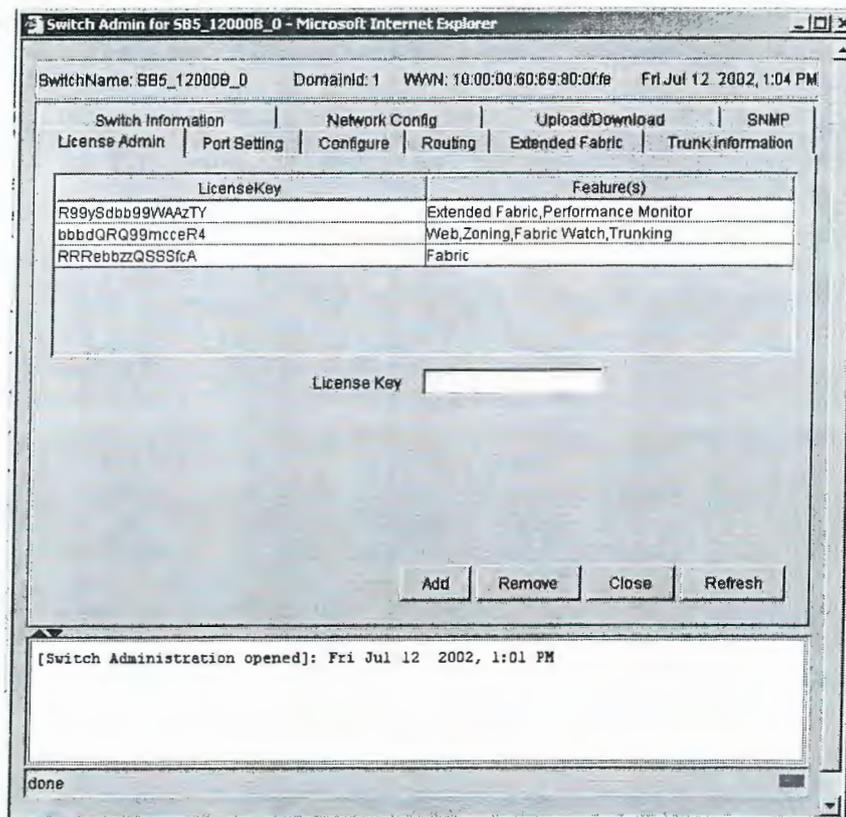

Figure 2-1 License Admin Tab
4. Click the **License Admin** tab (Figure 2-1 on page 2-5), enter the license key in the **License Key** field, and click **Add License**.